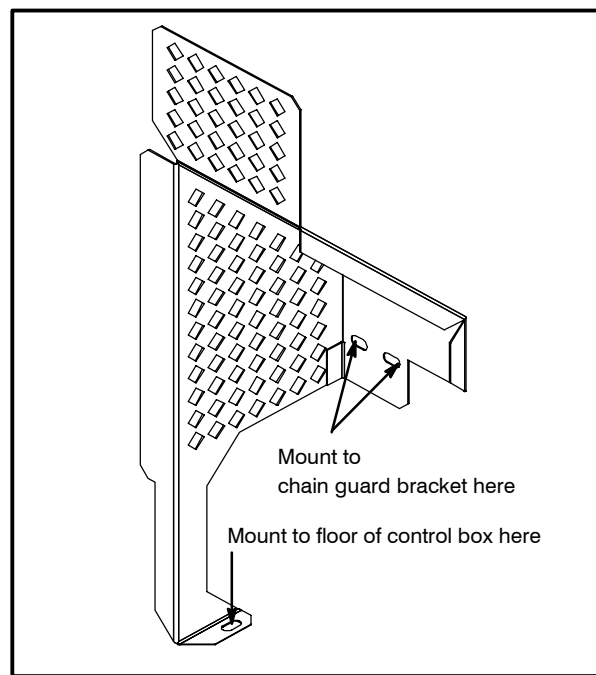

FIGURE 4
29. Install the new chain guard onto the chain guard bracket using the #10 pan head screws, washers and lockwashers provided. Mount the chain guard to the floor of the control box reusing the hardware from the old chain guard. Refer to FIGURE 4.